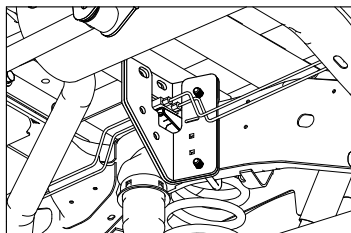
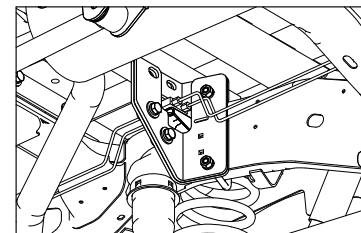

Figure E5: View of driver side plate looking from floor up at the driver side frame.
Figure E6: View of driver side plate looking from floor up at the driver side frame.
4. **Driver side plate cont.** Insert the U-bolt into the holes on the side plate just enough to hold the side plate in place. Position the inside side plate over the first as shown, see Figure E5. Insert the U-bolt into the holes of the inside side plate. Secure the side plates and U-bolt with lock washers and nuts. Fasten the two side plates together as shown using 1/2" x 1-1/2" long bolts, lock washers and finish nuts, see Figure E6. Attach these side plates to the front cross member and center using a 2-1/4" long bolt through the center, cross member and side plate along with a lock washer, two flat washers, and a finish nut. Finish attaching the side plates by placing a 1/2" x 1-1/2" long bolt through the cross member and the side plates adding a flat washer, lock washer, and finish nut. Hand tighten these connections.